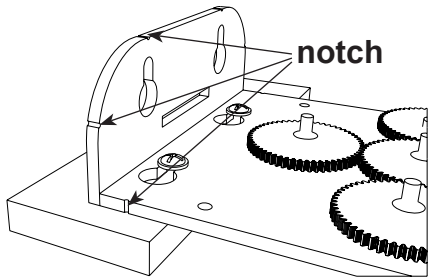

Figure 3.
- Horizontal surface (*fig. 3*).
- There are notches on the machine that will help to mark screw holes for securing the machine (*fig. 3*).